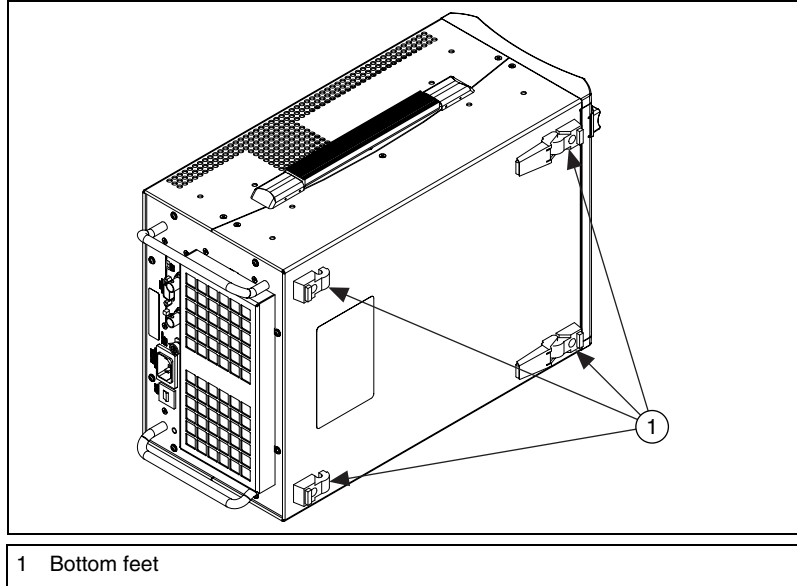

Figure 1. PXI 8-Slot Chassis On Left Side
1. Place chassis on its left side, as shown in Figure 1. Remove and discard the bottom feet and screws.